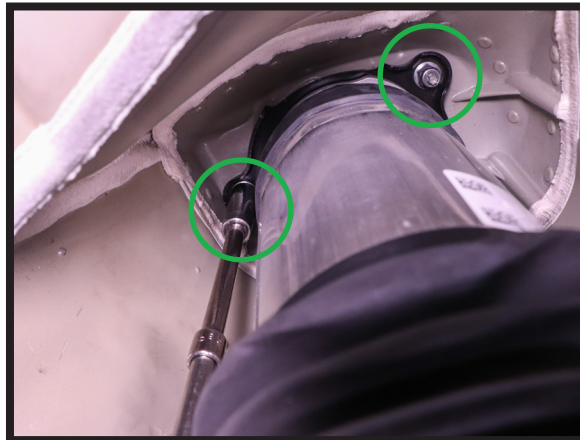

FIGURE 8
5. REMOVE THE THREE (3) TOP MOUNT NUTS. (FIGURE 8)